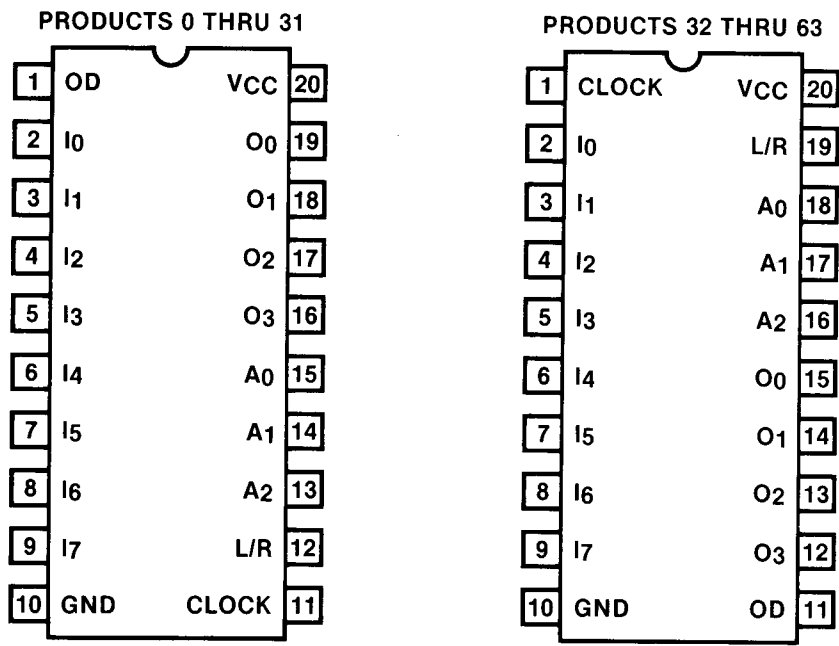

FIGURE 2-2. Pin Identification
**PAL** fuses are programmed using a low-voltage linear-select procedure which is common to all 15 PAL types. The array is divided into two groups, products 0 through 31 and products 32 through 63, for which pin identifications are shown in Figure 2-2. To program a particular fuse, both an input line and a product line are selected according to the following procedure:
9. Should the output not verify, repeat steps 1 through 8 up to five (5) times.